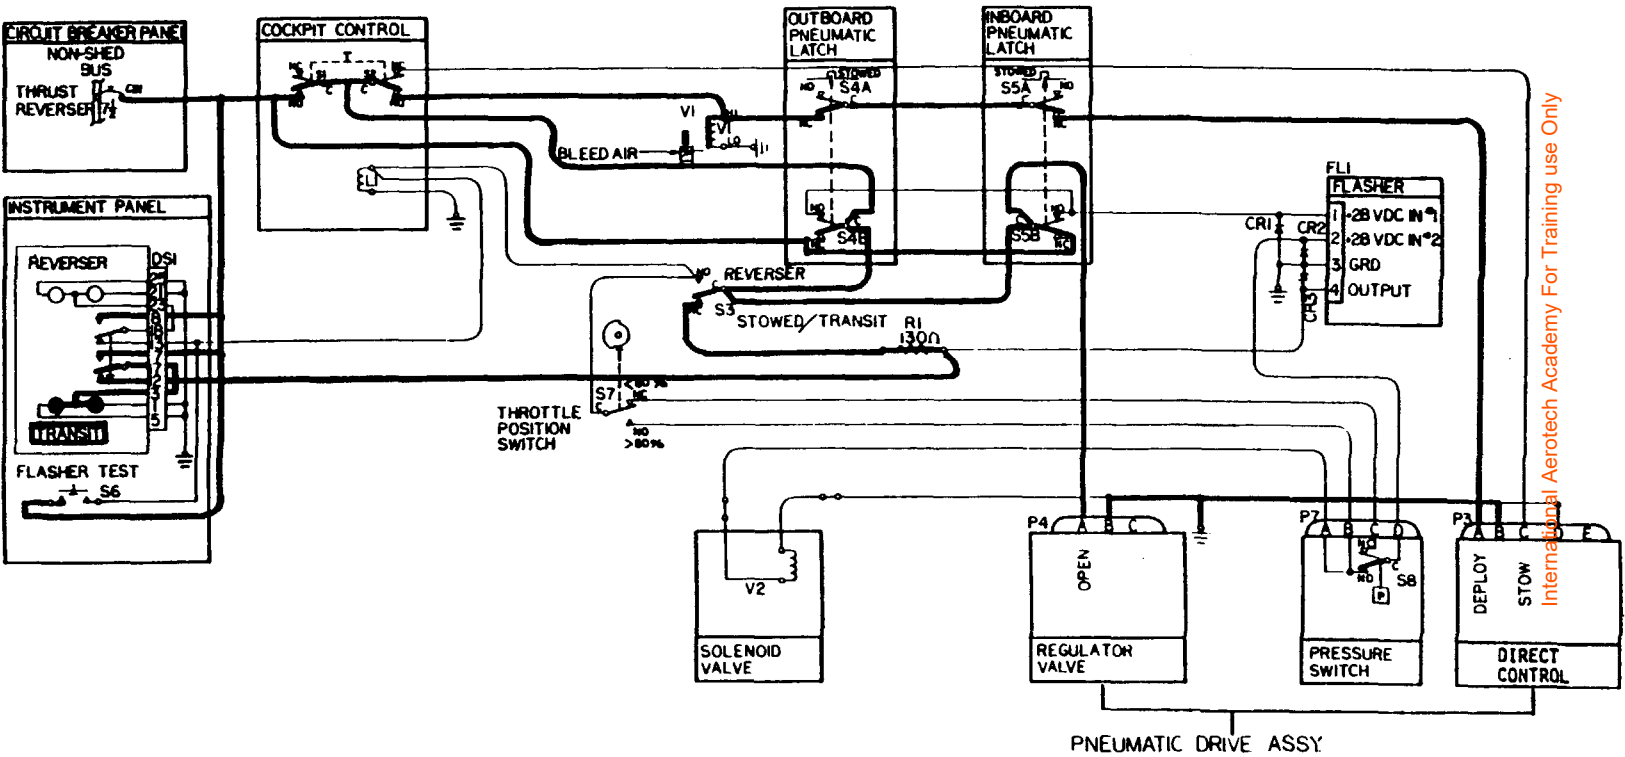

Figure 8 - Electrical Schematic - Deploy - Translating Aft
- (2) Translating Structures Moving Toward Deployed Position. (Figure 8) The reverser actuation links are positioned to clear the mechanical lockouts with the main throttles on the idle stop. With the throttles at idle, raising the reverser lever assemblies actuates the thrust re